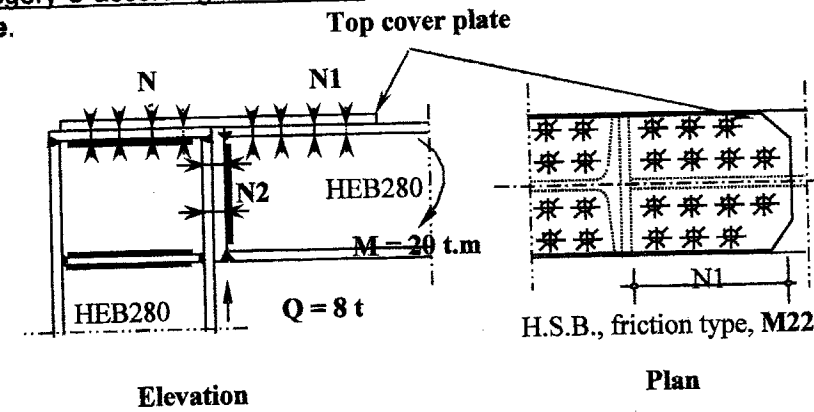

Fig. 3
A. Fig. 3 shows a Vierendeel girder of span 30m. B.M.D of a V. G is given. It is required to carry out the following: Draw S.F. and N.F. diagrams of the V.G and find the applied load P. Without any calculations draw the shape of the transverse reinforcement for the joint (A). Define the different factors affecting the behavior of beam-column joints. Define with neat sketches the different modes of failure for beam-column joints. (8marks)